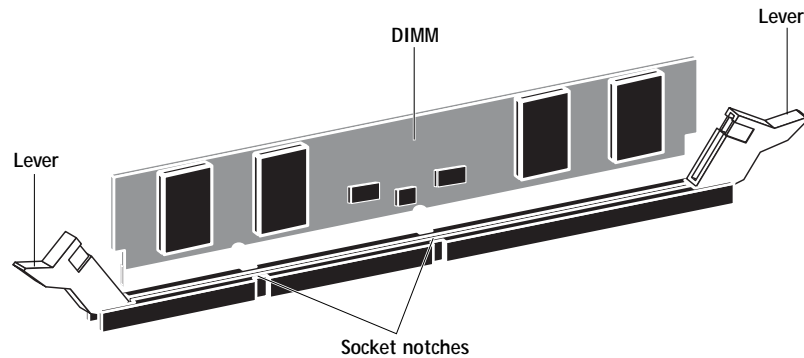

FIGURE 4-19 Releasing a DIMM
1. To release a DIMM, push outward on the levers on each side of the DIMM. (See Figure 4-19.)